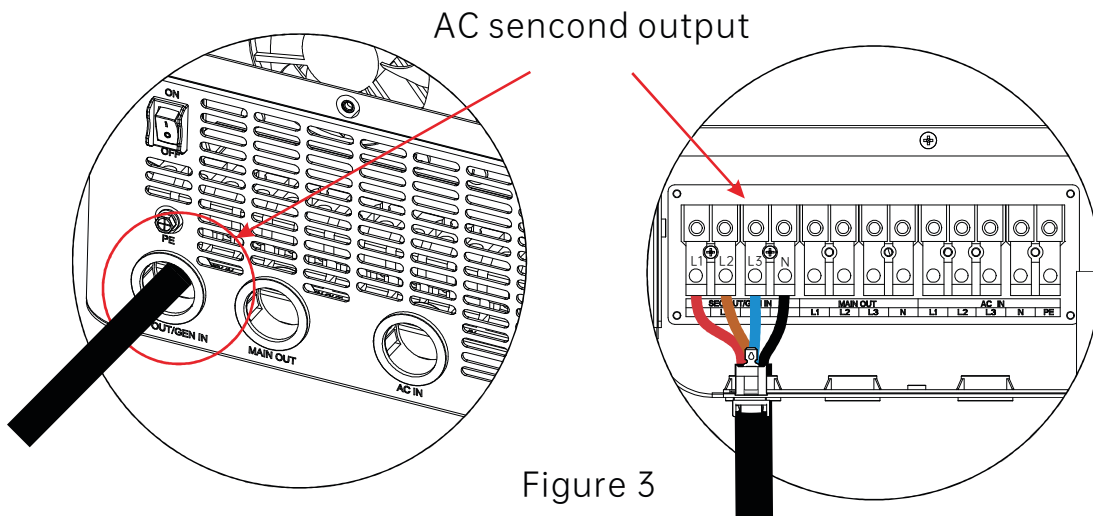

Figure 3
- According to the cable sequence and terminal position shown in figure 3 below, correctly connect to the live wire and null line of the AC secondary output line;